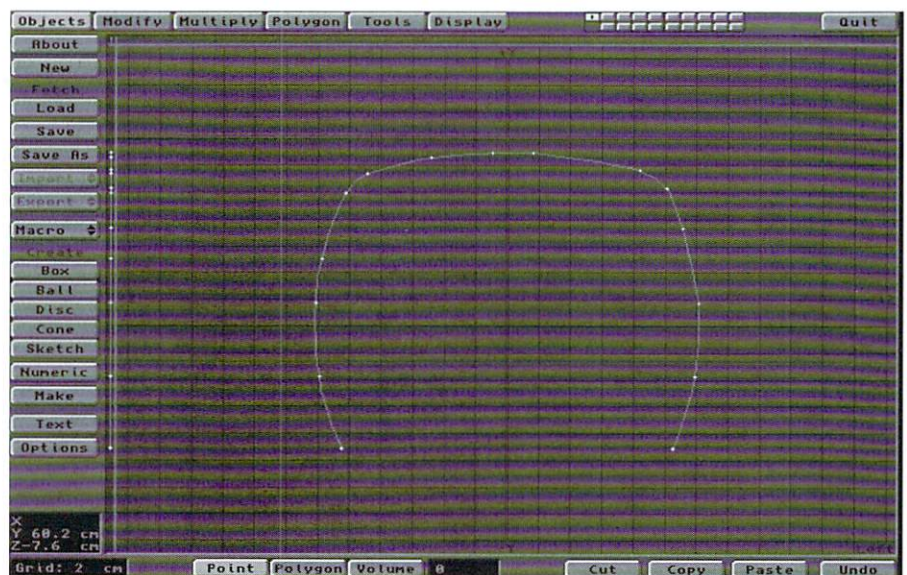

Figure 1: The outline of the tire.
Let's start with creating the actual tire. First you'll need to know what a tire looks like in profile in order to create it. Figure 1 has my interpretation of a simple tire, but you can get more technical if you want. For now, draw something simple—the purpose of the tutorial is to make tracks, not tires!
- Go into Modeler and use the Sketch tool (Objects) to draw the outline of the tire in the Z-Y view. It should look something like an upside-down U shape (Figure 1). To get a nice large view, zoom in with the (.) key until your grid is 50 mm. Make sure the sketch is around 250 mm tall. Hit Enter when you're done sketching.
- Copy this shape and Paste it into Layer 2 (2), then go back to Layer 1 (1).